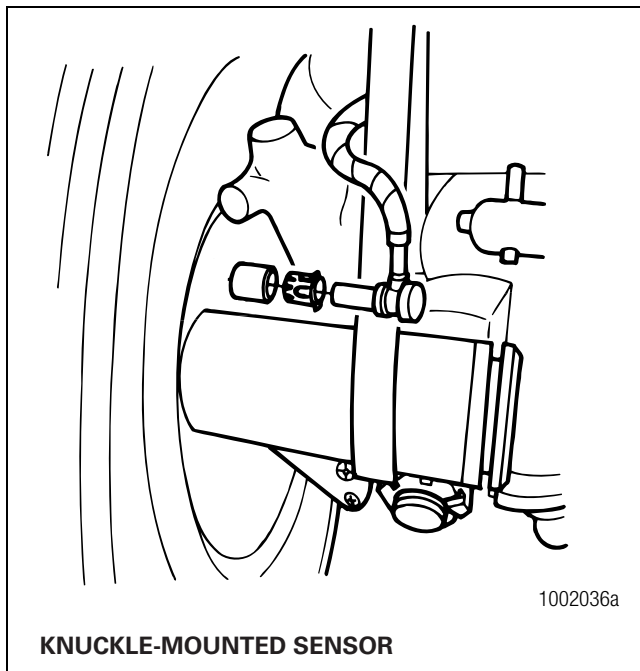

Figure 4.2
5. Remove the sensor from the sensor holder. Use a twisting motion if necessary. **Do not pull on the cable.** Figure 4.2.